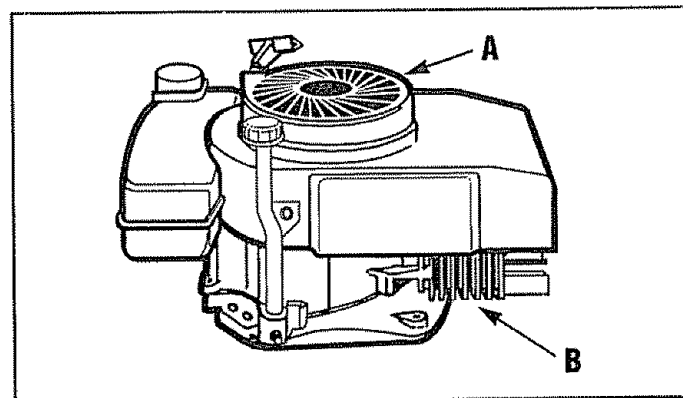

Figure 29: Air intake screen and cooling fins.
To ensure adequate cooling of the engine, air must circulate freely through the air intake screen (A in Figure 29) and over the cooling fins (B).